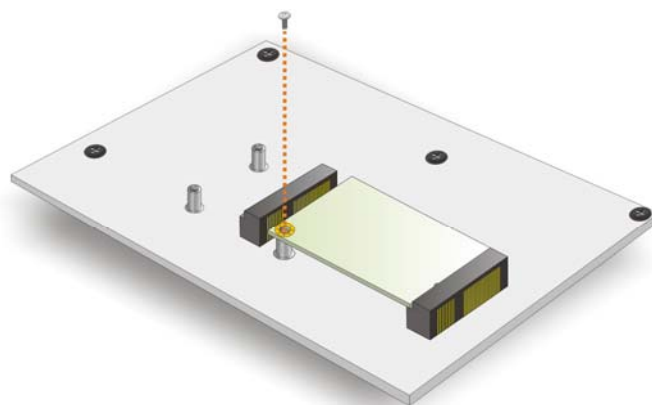

Figure 4-12: Secure the Full-size PCIe Mini Card
Step 4: **Secure the full-size PCIe Mini card.** Secure the full-size PCIe Mini card with the retention screw previously removed (**Figure 4-12**).